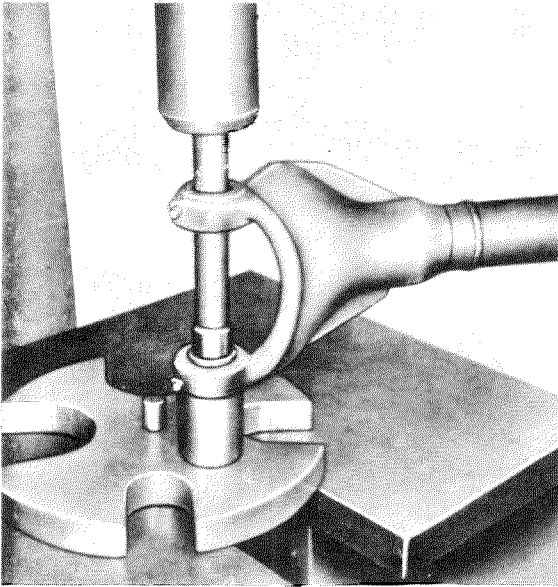

Fig. 35—5/10
7. Press out the two bushings in the right axle tube (Fig. 35—5/10).
8. Set up the right axle tube in the holding fixture (1) of Checking Device 180 589 09 21 (Fig. 35—5/11).
9. Push the measuring bolt (3) of the checking device through the base bores of the two eyes of the axle tube. Put the dial gage holder (2) on the holding fixture and ascertain the difference between the dimensions at the left and at the right.